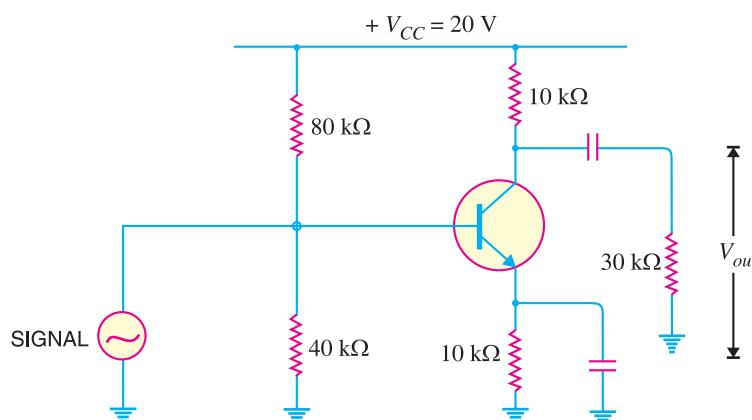

Fig. 24.11
**Example 24.6.** Fig. 24.11 shows the transistor amplifier in CE arrangement. The  $h$  parameters of transistor are as under :